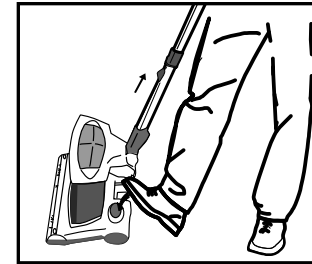

Fig. 7
1. Press the **dust cup release button** with your foot. (Fig. 7)